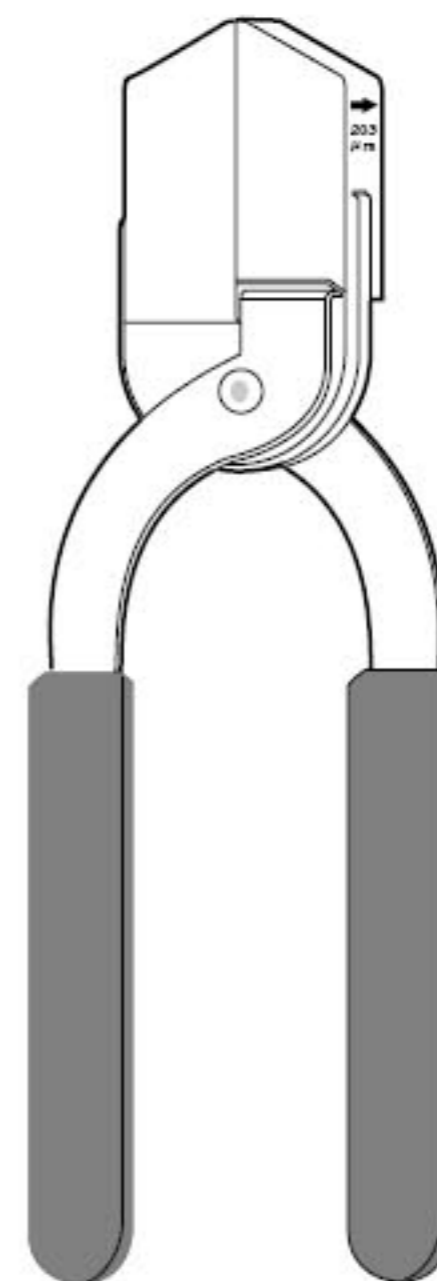

Figure 1
- 1.1 This procedure describes how to strip fiber coating with a 203 μm size No-Nik tool (Figure 1).